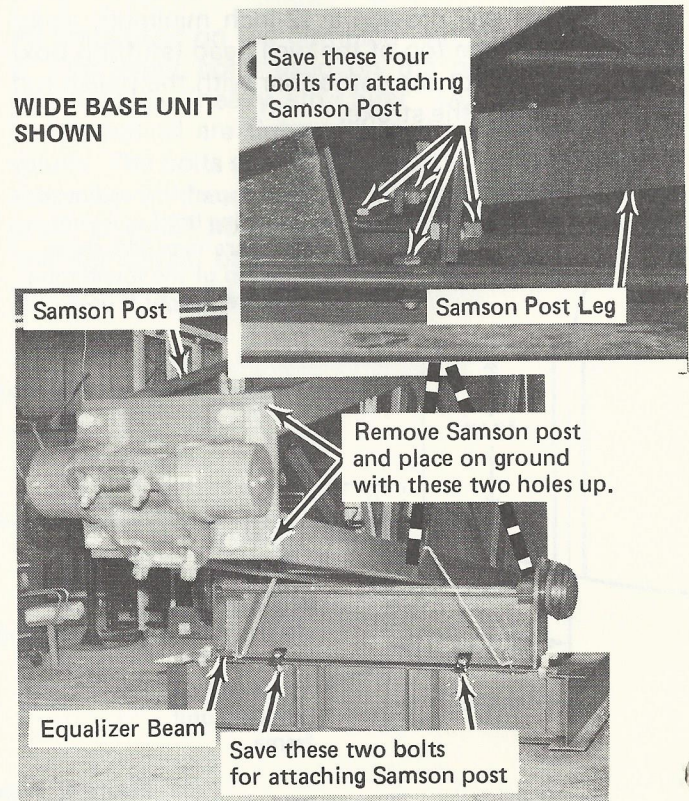

Figure 6
1. Remove shipping bolts and wire from only the part to be lifted from its shipping position. Remove parts in the following order: Samson post (weight 2000 lbs.), equalizer beam (weight 875 lbs.), box of parts, pitmans (weight 200 lbs.), ladder (weight 122 lbs.) and guard rails. The six shipping bolts shown in figure 6 are Samson post attachment bolts. Save them for future use. Lift equalizer beam to a location preparatory to attaching it to the walking beam.